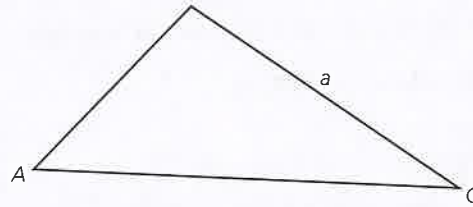

Figure 4.22 One side and two angles are given
- two angles and a side opposite one of the angles (see Figure 4.22).